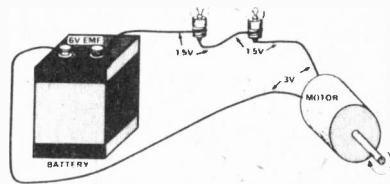

Fig.3. In a complete circuit, the PDs across each section of the circuit, with the same current flowing, add up to the EMF.
When an electric current flows, we find that we can take 'voltage' readings with the voltmeter at parts of the circuit other than the battery. These readings are of 'potential difference', also measured in volts. The distinction is that these readings of potential difference (PD) are caused by the current and will disappear when the current stops flowing. The sequence is that EMF causes current which causes PD. If we divide any circuit into sections (Fig. 3) then the PD across each section can be measured. Adding all of these PD values gives just the amount of the EMF.